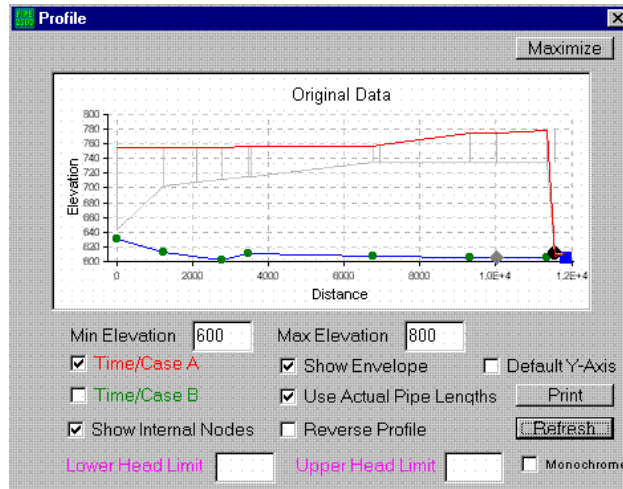

Figure 4 Profile, Case 0
**3) Profiles:** A profile plot showing the pipeline profile and head profiles provides a very useful tool. To display this, click the **Group** button and select a starting node (J-13), upper center- dead end, and an ending node (the clear well reservoir). Next, click **Analyze** (Main Menu) and **Profile** and **Create Profile from Leftmost Selected Node**. The profile shown in Figure 4 will be displayed. The envelope of heads for the three cases will be displayed if **Show Envelope** is selected. Select **Time/Case A** and **Time/Case B** and the profiles for the cases selected in A and B (**Results Selector** bar) will be displayed. You can provide an Upper (or Lower) Head Limit to see if your heads exceed the limits.